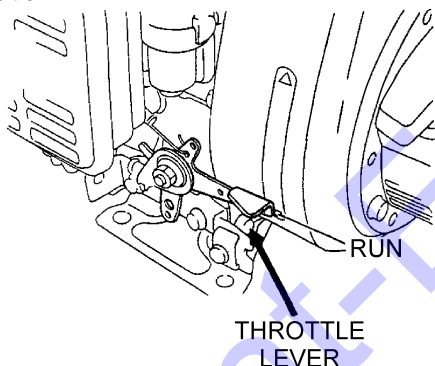

Figure 26. Throttle Lever (Run Position)
9. To begin mixing, place the throttle lever (Figure 26) in the "RUN" position